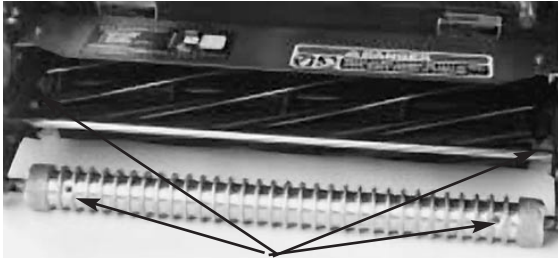

Figure 17
2. The grease fitting locations are: (2) on the front roller (Fig. 17), (2) on the reel bearings (Fig. 17), (2) on the drum axles (Fig. 18), (3) on the differential (Fig. 18), (2) on the reel countershaft bearings (Fig. 19) and (2) on the belt idler pivots (Fig. 20).